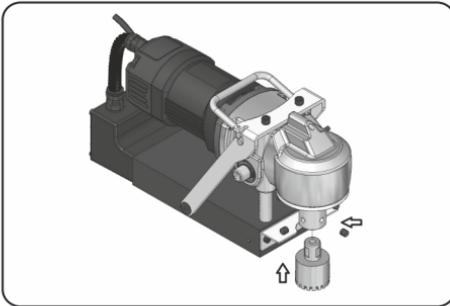

Fig. No. 7
- C. Insert cutter into drill spindle with the two flats of the cutter aligned with grub screws (Fig No. 7 & 8). Make sure the center pin is inserted into the cutter.